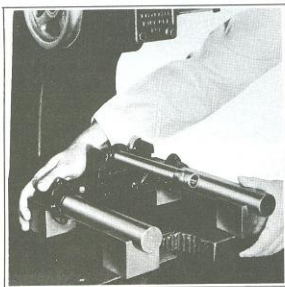

Figure 2-51. Checking Bracket Alignment
4. Place the fork stem and bracket assembly on the four straightening blocks located on the surface plate (see Figure 2-51). If the legs rest squarely on straightening blocks, the bracket assembly is correctly trued on a horizontal plane. If bracket is not true, press again, checking alignment after each operation.